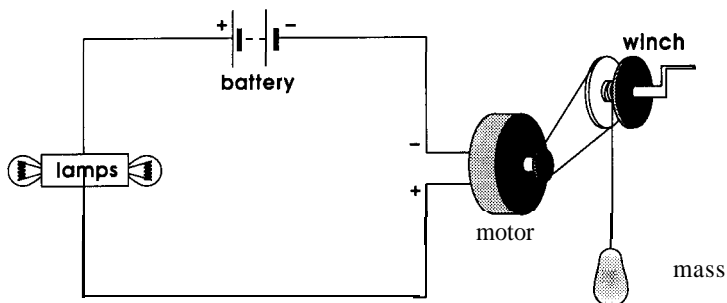

figure 1
- Connect one of the 3v battery leads (or the 'B' setting of the power pack) to the input terminal of the motor as shown in figure 1.